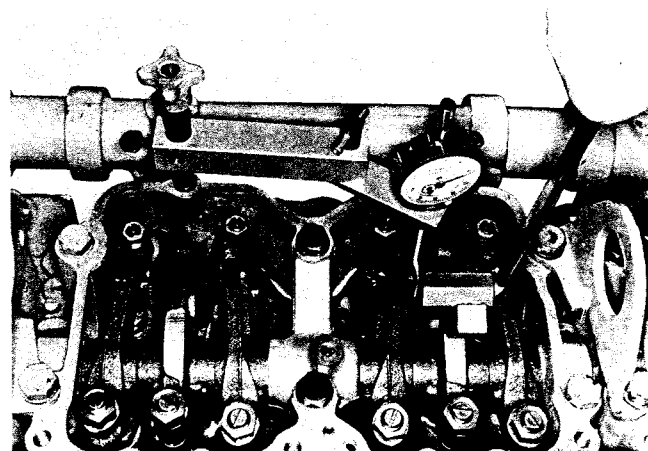

Fig. 2-44, (N114232). Bottoming injector plunger in cup — N-855
- Using ST-1193 Rocker Lever Actuator, Fig. 2-44, or equivalent, bar lever toward injector until plunger is bottomed to squeeze oil film from cup. Allow injector plunger to rise, bottom again, set indicator at zero (0). Check extension contact with plunger top.